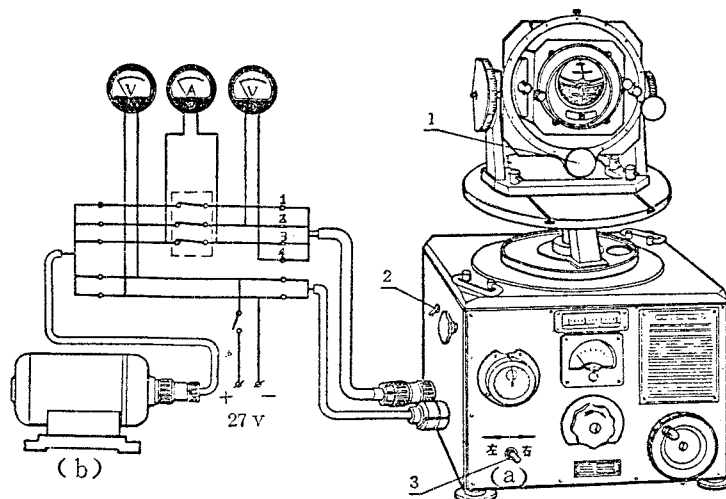

Fig. 3-2 Connection Diagram for Checking Artificial Horizon Performance
(5) Check the artificial horizon for performance. Connect the tester as shown in Fig. 3-2 and make the tester and artificial horizon level by adjustment. Tap the instrument, the small ball of side-slip indicator should be located in the centre of the two mark lines.
A. Check the time needed by the bimetallic strip relay to open. It should take 40-150 seconds from the turning on of power supply to the beginning of indication of voltmeter connected to (2) and (4) circuits.
C. Check the time needed by the gyro rotor to reach the rated speed. The time should not exceed 3min from turning on the power supply to the stabilization of the current (0.5-0.6a) in phase (3).
F. Check the angle at which the lateral correction stops. Incline the artificial horizon slowly to the left and right about the longitudinal axis respectively, when the voltage between (2) and (4) raises from 2-18v to 33-36v drastically, the inclining angle of the tester bank dial should be within the range of 6-13°.
(2) Check the balance ring for upward and downward balance. Place the spherical dial at pitch-up and pitch-down position by 40° respectively, vibrate the artificial horizon lightly, the spherical dial should go back to the range of 20±5°.
(3) Check the gyro for recovery time of upward, downward, leftward and rightward inclination by 20° (See Fig. 3-2).